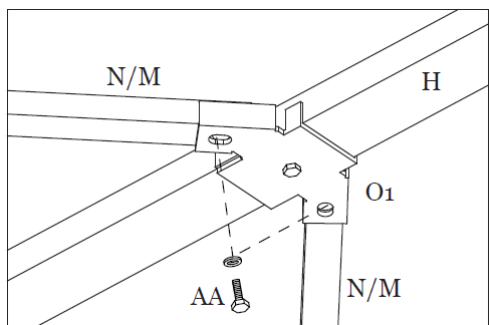

Figure 12-3
Step 12C: Attach the Main Roof Horizontal Supports (M,N) to the Main Roof Connectors (O1) using Bolts (AA). See Figure 12-3.